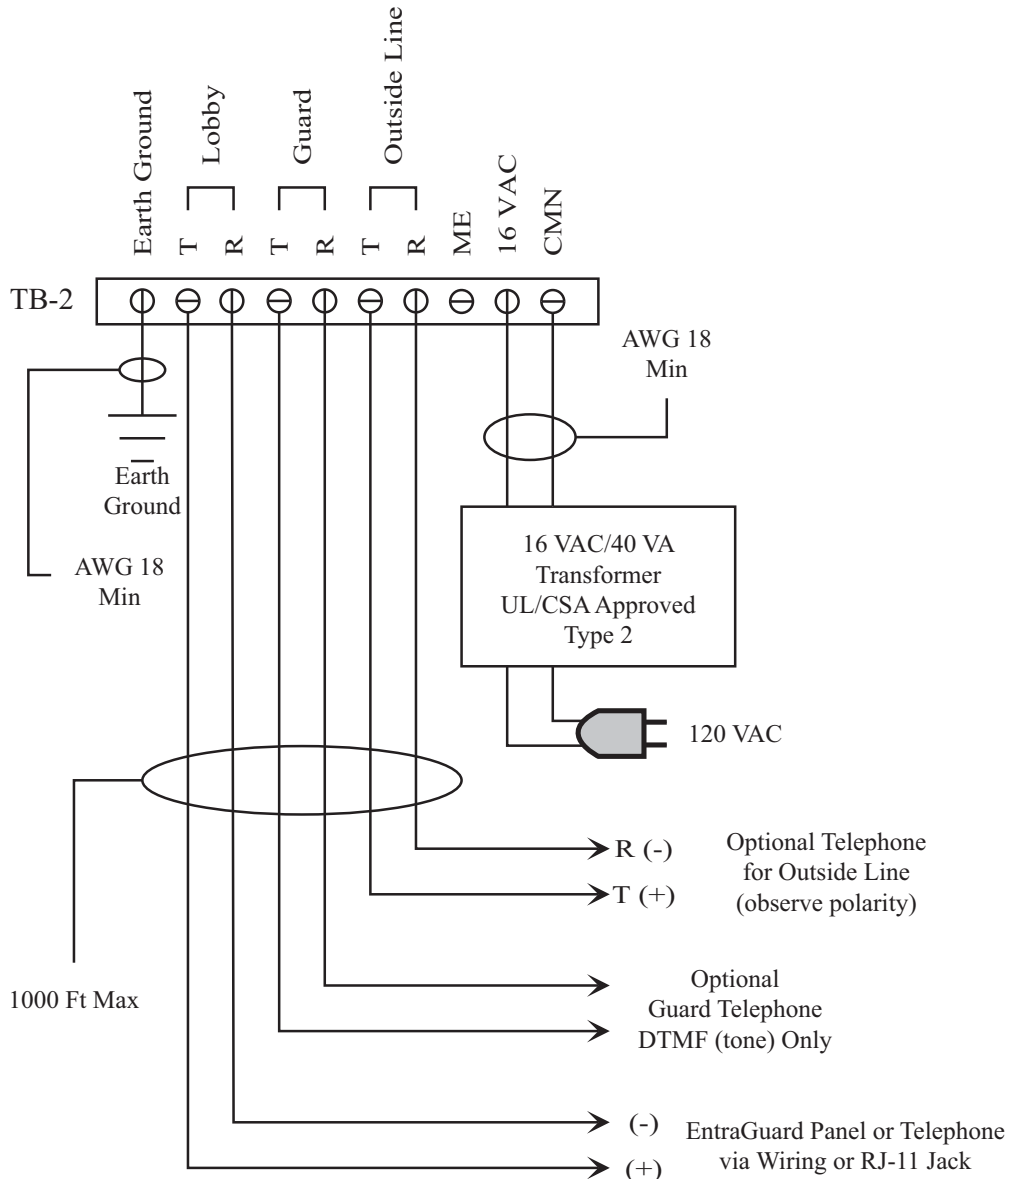

Figure 3: NPL II-48 Power and Phone Line Wiring Diagram
Make a quality earth ground connection to the NPL II-48 panel to ensure the best possible operating conditions for the panel (see Figure 3 on page 5). Without a quality earth ground connection, the NPL II-48 panel may appear to operate correctly, but will be extremely susceptible to transients and electromagnetic interference on data and power lines. An earth ground brings all electrically neutral lines to the earth's surface potential (essentially to a zero potential) providing two primary benefits to the NPL II-48 panel.
- Using a standard, two-conductor telephone cable, connect one end of the cable to Terminals 2 and 3 on the Control Board (labeled Lobby – see Figure 3 on page 5). The opposite end of the cable should be fitted with a standard RJ-11 telephone plug and then plugged into the RJ-11 jack on the EntraGuard circuit board.